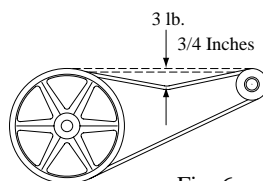

Fig. 6
- **Belt tension.** Loosen the motor mount bolts and slide the motor back until the belt is properly tensioned. A 3 lb. force should deflect the belt 3/4 inches (see Fig. 6). Retighten motor mount bolts. **Do not adjust pulley to tighten belt.**